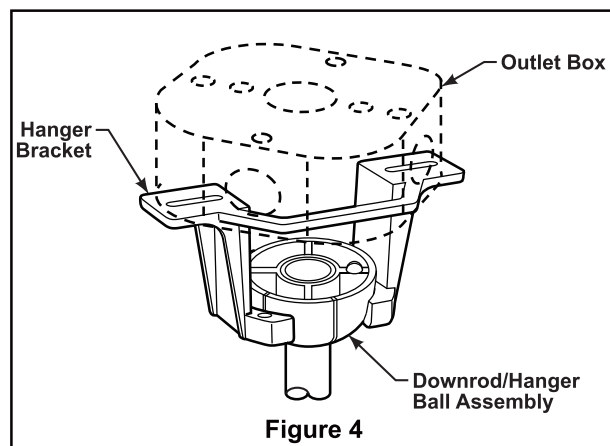

Figure 4
- Carefully lift the fan and seat the downrod/hanger ball assembly onto the hanger bracket that was just attached to the outlet box. Be sure the groove in the ball is lined up with tab on the hanger bracket. (Figure 4) This fan is intended for standard and angled mounting options only. Closemount and flushmount options are not available. For angled ceilings, note the angle can be no more than 20°.
- After connections have been made, turn leads upward and carefully push leads into the outlet box, with the white and green leads to one side of the box and the black leads to the other side. (Figure 4)